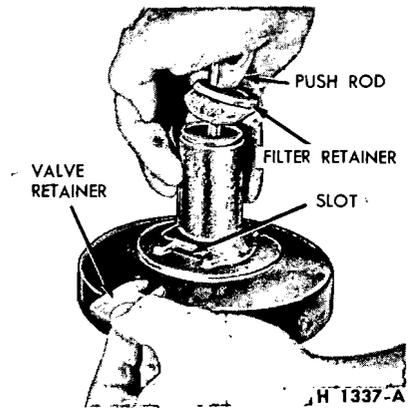

FIG. 39—Removing or Installing Valve Retainer—Bendix Booster
9. Hold the diaphragm plate so that the valve retainer is facing downward. Press the valve push rod inward to release the tension on the retainer and allow it to drop out of the plate (Fig. 39).
4. Insert the valve and rod into the hub of the diaphragm plate. Push the rod inward until the retaining groove is aligned with the slot, and then slide the retainer into the groove (Fig. 39).